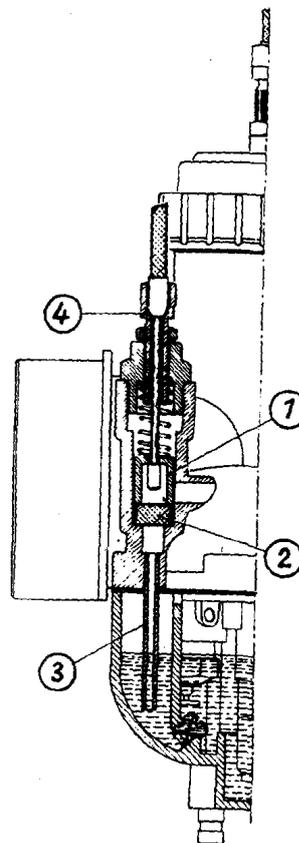
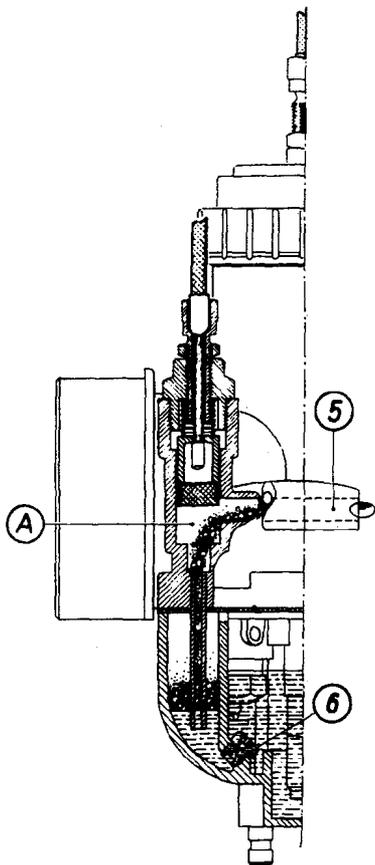

Fig. 189. Starting piston closed (driving position)
Fig. 191. Starting piston lifted (cold starting)
The cold starting device is shown in Fig. 189 (driving position, lever for starting carburetter at the handle-bars contacts the front stop) and in Fig. 191 (cold starting, lever for starting carburetter at the handle-bars is drawn towards the driver).
When the lever for the starting carburetter at the handle-bars is set to cold starting position (the lever is drawn towards the driver), then the starting piston with packing is lifted and, thus, the upper opening of the starting mixing tube (A), Fig. 191, is released.
The fuel in the starting mixing tube is sucked up when the engine is started and then passes through the starting duct (5), Fig. 191, which ends in the suction port after the throttle valve.
The lower opening of the starting mixing tube ends in a separate space, the starting compartment, which is connected with the compartment for the central float through the starting jet (6), Fig. 191.